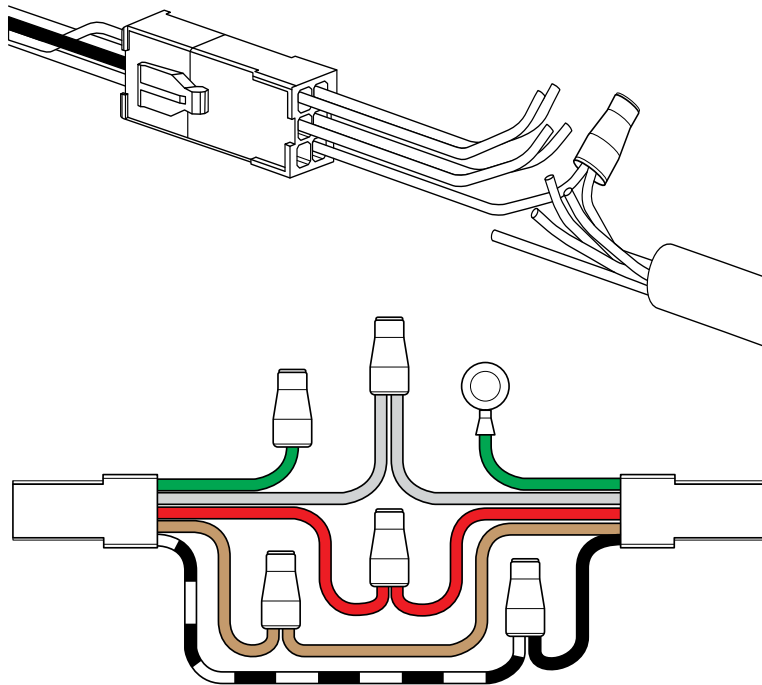

FIGURE 8
2. Install the new power supply connector using crimp nuts as shown. **Figure 8 and Figure 9.**